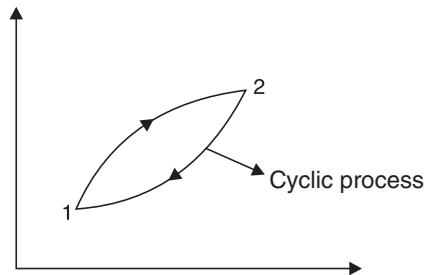

Fig. 4.1
If a system undergoes a series of changes and returns to its initial state *i.e.*, if a cyclic process is completed, internal energy is found to return to its original value, hence the sum of the changes of internal energy for a cyclic process *i.e.*,  $\sum \Delta E = 0$ . So internal energy ( $E$ ) is a state function. Otherwise, it can be stated that when a system changes from initial state (1) to a final state (2) and comes back to (1) (Fig. 4.1), net change in internal energy is zero *i.e.*,  $\oint dE = 0$  (cyclic integration of  $E$  is 0), so  $dE$  is path independent and  $E$  is a state function.